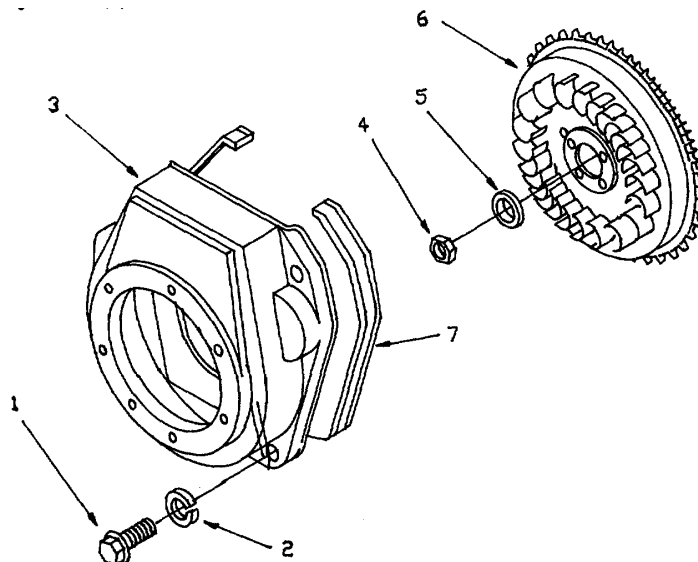
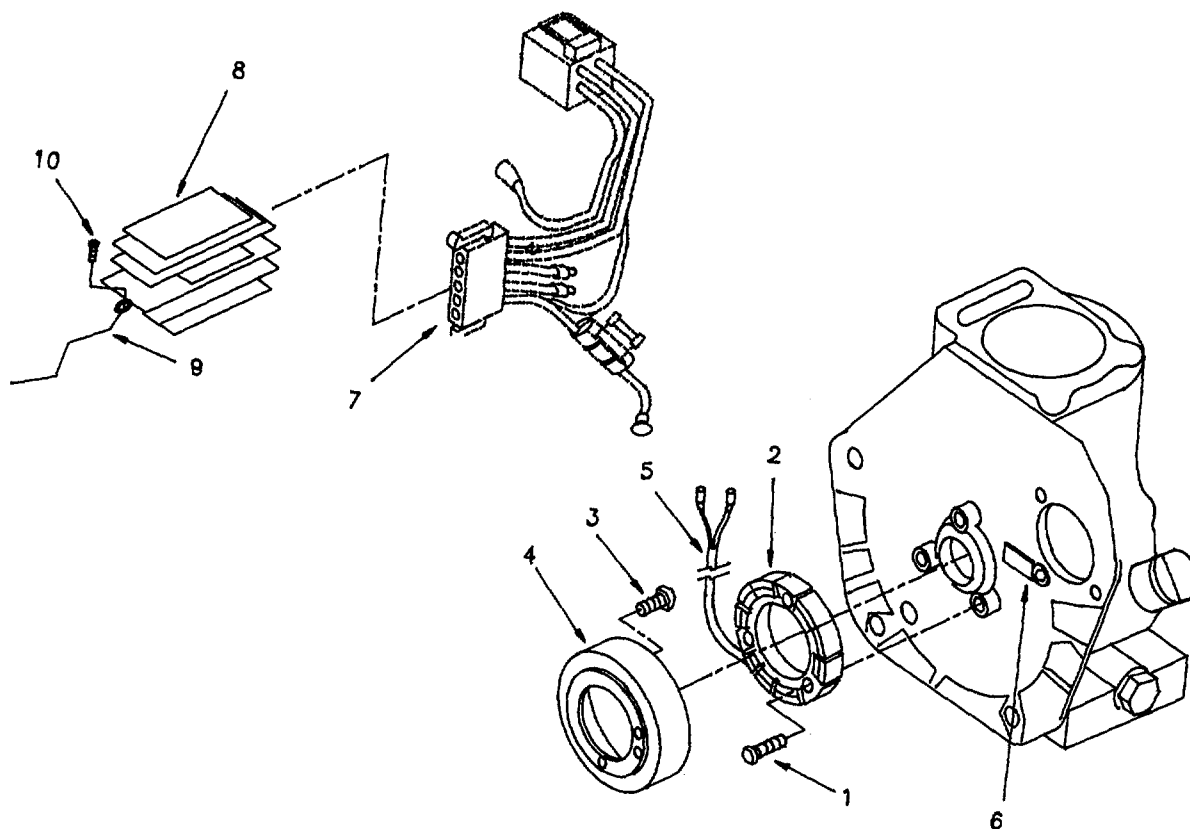

Figure 5-5. Cooling Fan Case and Flywheel.
Figure 5-8. Engine Generator and Current Limiter.
- (2) Engine generator stator coil continuity test.
- (c) Remove cap screws (1, Figure 5-5), lock washers (2), and cooling fan case (3).
- (d) Remove plain hexagon nut (4) and flat washer (5).
- (e) Remove flywheel (6).
- (2) Engine generator stator coil continuity test. - continued
- (f) Remove wire (5, Figure 5-8) from clamp (6).
- (1) Remove tapping screws (1, Figure 5-8).
- (2) Remove engine generator stator (2).
- (3) Remove cap screw (3).
- (4) Remove stator housing (4) from engine flywheel (6, Figure 5-5).
- (1) Disconnect wire connector (7, Figure 5-8) from current limiter (8).
- (2) Disconnect ground wires (9) from cap screws (10).
- (3) Remove cap screws (10).
- (4) Remove current limiter (8).
- (1) Install stator housing (4, Figure 5-8) into engine flywheel (6, Figure 5-5).
- (2) Install cap screw (3, Figure 5-8).
- (3) Install engine generator stator (2), tapping screws (1) and tighten.
- (4) Install wire (5) into clamp (6).
- (5) Install engine flywheel (6, Figure 5-5).
- (6) Install flat washer (5) and plain hexagon nut (4).
- (7) If damaged, install new plain encased seal (7) on cooling fan case (3).
- (8) Install cooling fan case (3).
- (9) Install lock washer (2), cap screws (4) and tighten.
- (10) Install engine intake air cleaner (reference para. 4-17).
- (11) Install recoil starter (reference para. 4-18).
- (12) Perform engine generator voltage test (reference para. 5-6, a.). If voltage is now in accordance with Table 5-3, repair is complete. If not, replace stator housing (reference para. 5-6, b.) and retest.
- (13) Connect wires (5, Figure 5-8) that were removed from current limiter (8).